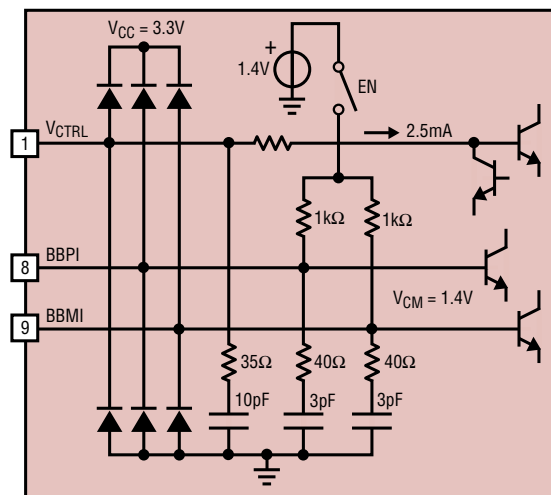

Figure 1. Simplified Circuit Schematic of the Base Band Input Interface (Only One Channel Is Shown).
The baseband inputs (BBPI, BBMI, BBPQ, BBMQ) present a differential input impedance of about 1.8kΩ, as depicted in Figure 1. The baseband bandwidth depends on the source impedance and the frequency setting (register 0x00). It is recommended to compensate the baseband input impedance in the baseband lowpass filter design in order to achieve best gain flatness vs baseband frequency. The S-parameters for (each of) the baseband inputs are given in Table 2 for various LO frequency and gain settings.
The LTC5599 supports analog control of the conversion gain through a voltage applied to V_{CTRL} (pin 1). The gain can be controlled downward from the digital gain setting (DG) programmed in register 0x01. In order to minimize distortion in the RF output signal the AGCTRL bit (bit 6 in register 0x01) should be set to 1. If analog gain control is not used, V_{CTRL} should be connected to V_{CC} and AGCTRL set to 0; this saves about 2.58mA of supply current. The typical usable gain control range is from 0.9V to 3.3V. Setting V_{CTRL} to a voltage lower than V_{CC} with AGCTRL = 0 significantly impairs the linearity of the RF output signal and lowers the V_{CTRL} response time. A simplified schematic is shown in Figure 1.